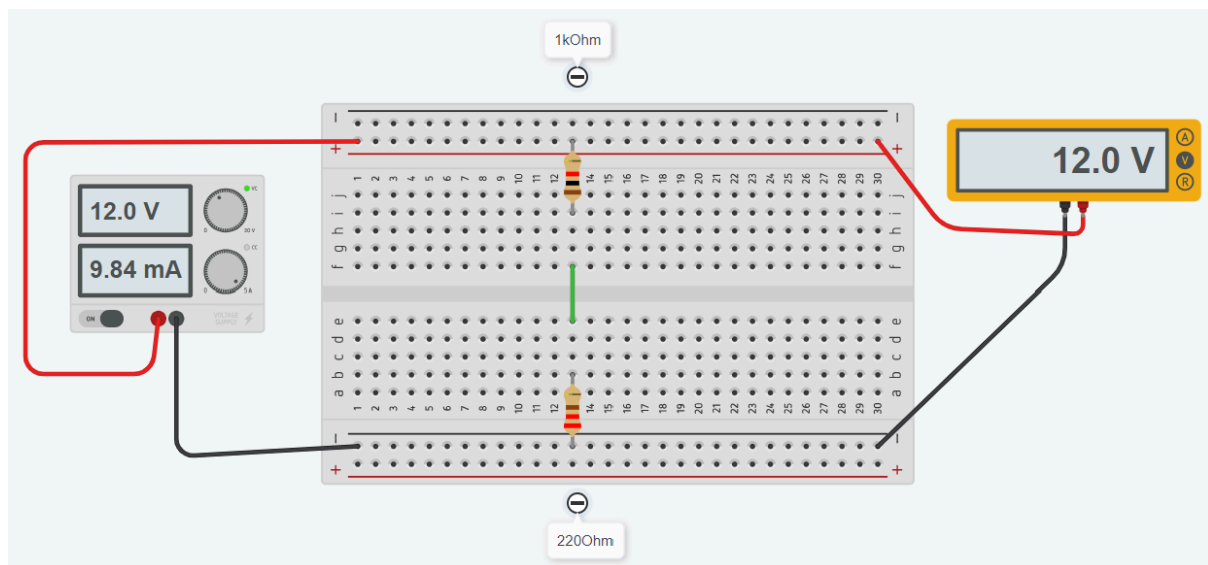

Figure 30: Breadboard connections for supply voltage measurement.
- Connect the croc-clips to the breadboard to make a measurement of the supply voltage, V_s , as shown on the left of Figure 30.
- An example of the breadboard connections to measure the voltage across the power supply is shown in Figure 30.